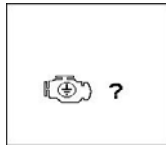

Fig.68
9. If the user did not follow the right procedures during the testing, it will display the results as follows (Fig.68) below: